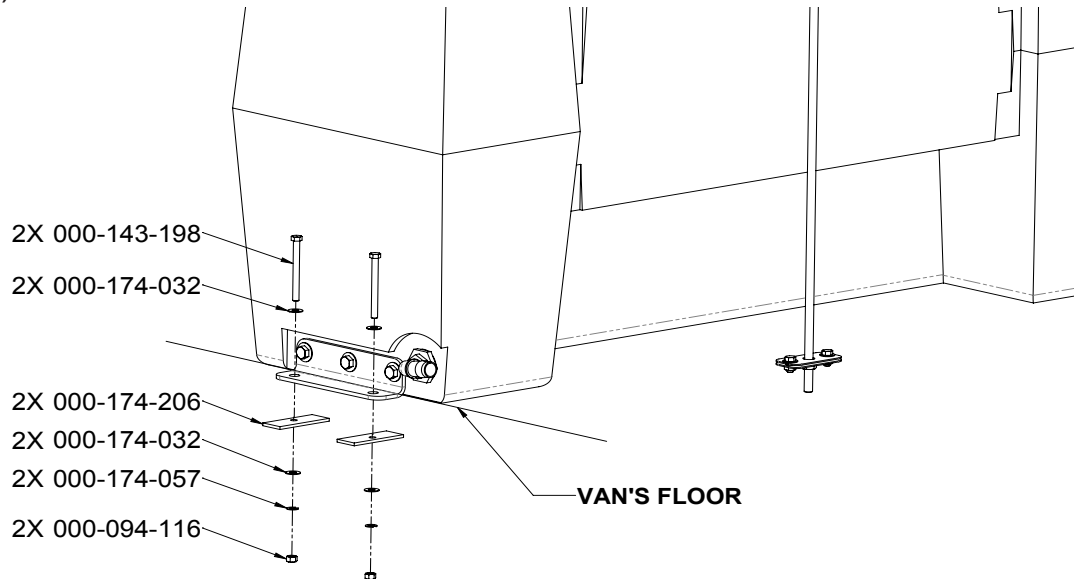

Figure 85. Mounting the 110 Gallon OTWW Tank to the Floor.
10. Mount the Tank to the floor using the Bolts, Washers and Nuts Provided. There are 4 mounting locations, 2 on the driver side (not pictured) and 2 on the passenger side. (Figure 85)